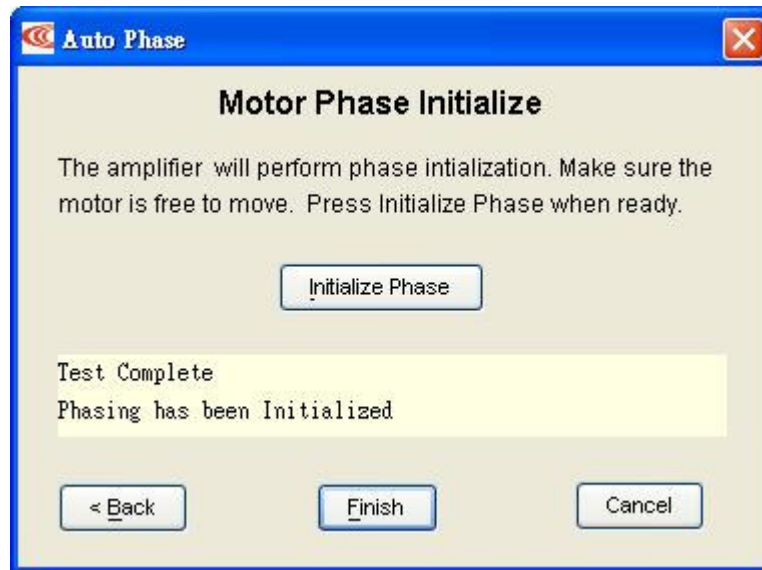

Fig. 18 Phase has been Initialized
- f. Press on Initialize Phase, the motor will perform short servo on. If successful, Fig. 18 Phase has been Initialized message will appear.